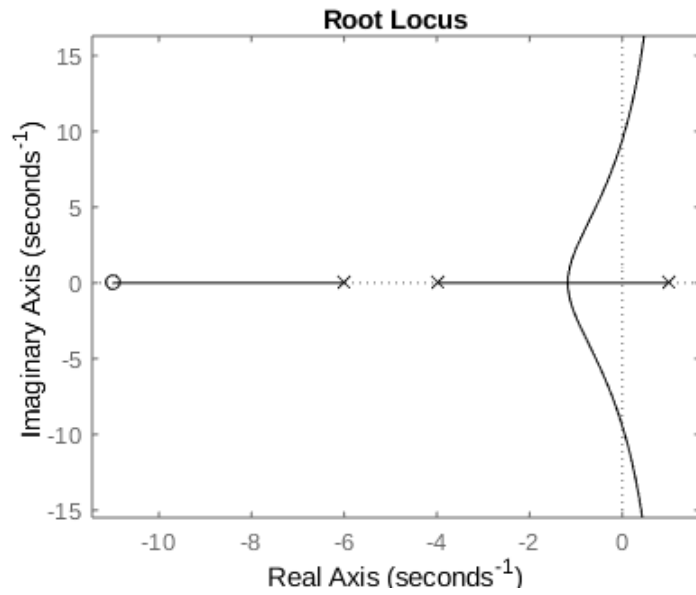

Figure 5: Root locus in Problem 4 a).  $\times$  denotes start points and  $\circ$  denotes end points.
**a)** To investigate the systems behavior your colleagues produced a root locus of the poles of the closed loop system (see Figure 5 on next page), comment on the qualitative behavior (stability, quickness and oscillations) of the closed loop system for increasing values of the proportionality constant,  $K$  in the whole range  $0 < K < \infty$ . In this exercise, you don't need to compute value of  $K$  when the qualitative behavior changes.